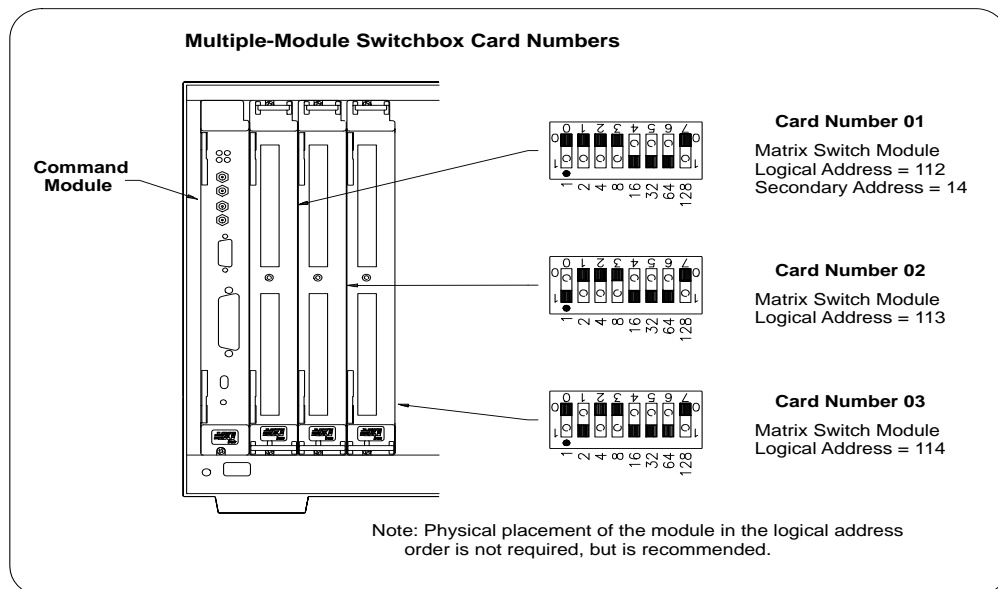

Figure 1-2. Card Numbers in a Multiple-modules Switchbox
- **Multiple-module Switchbox.** In a multiple-module switchbox configuration, modules are set to successive logical addresses. The module with the lowest logical address is always card number 01. The module with the next successive logical address is card number 02, and so on. Figure 1-2 illustrates the card numbers and logical addresses of a typical multiple-module switchbox installed in an Agilent C-Size mainframe with an Agilent command module.